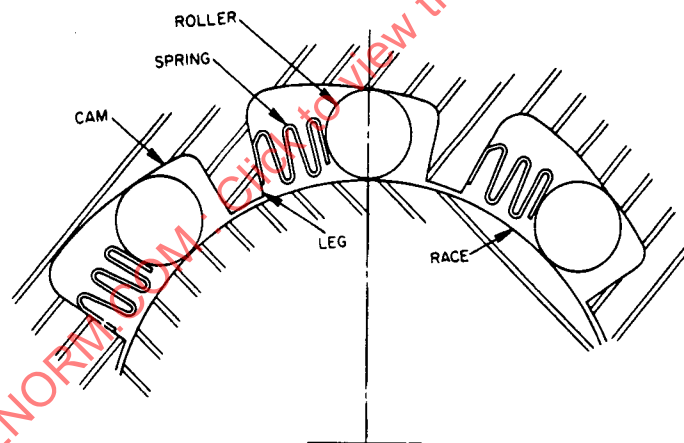

FIGURE 4 - Loose Roller Type Clutch Diagram (Leg Type Cam)
3.3.1.1 LEG TYPE: A cam which has integral legs projecting into the space between the rollers to provide reaction for the springs and may provide radial location of the race relative to the cam. (See Figure 4.)